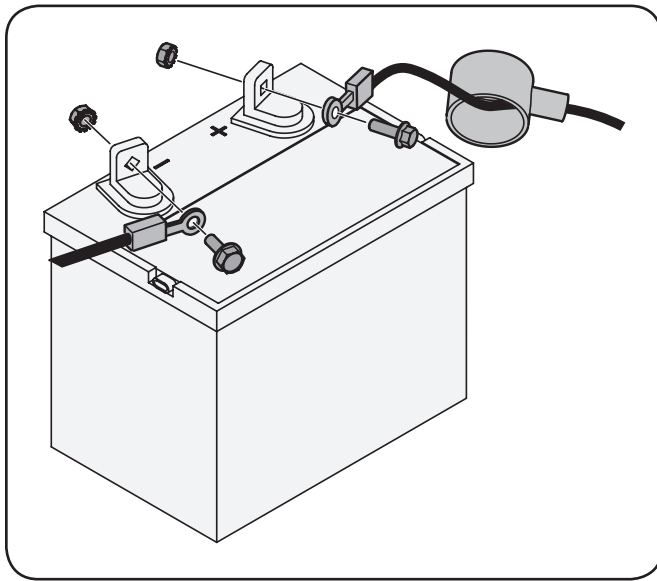

Figure 3-3
1. Remove the plastic cover, if present, from the positive (+) battery terminal and attach the red cable to the positive battery terminal (+) with the bolt and hex nut. See Fig. 3-3.
2. Remove the plastic cover, if present, from the negative (-) battery terminal and attach the black cable to the negative battery terminal (-) with the bolt and hex nut. See Fig. 3-3.